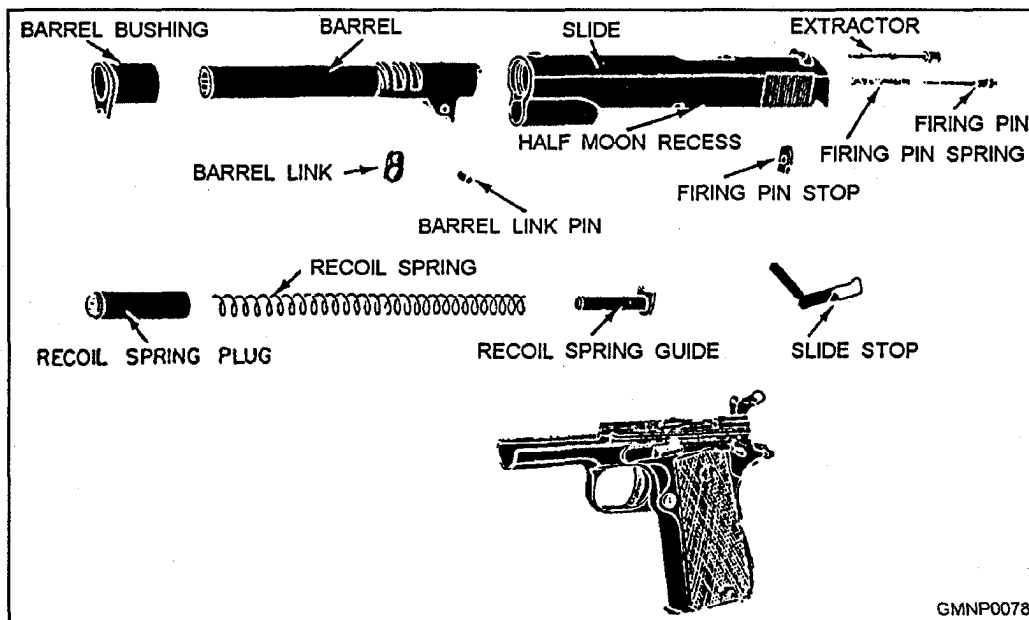
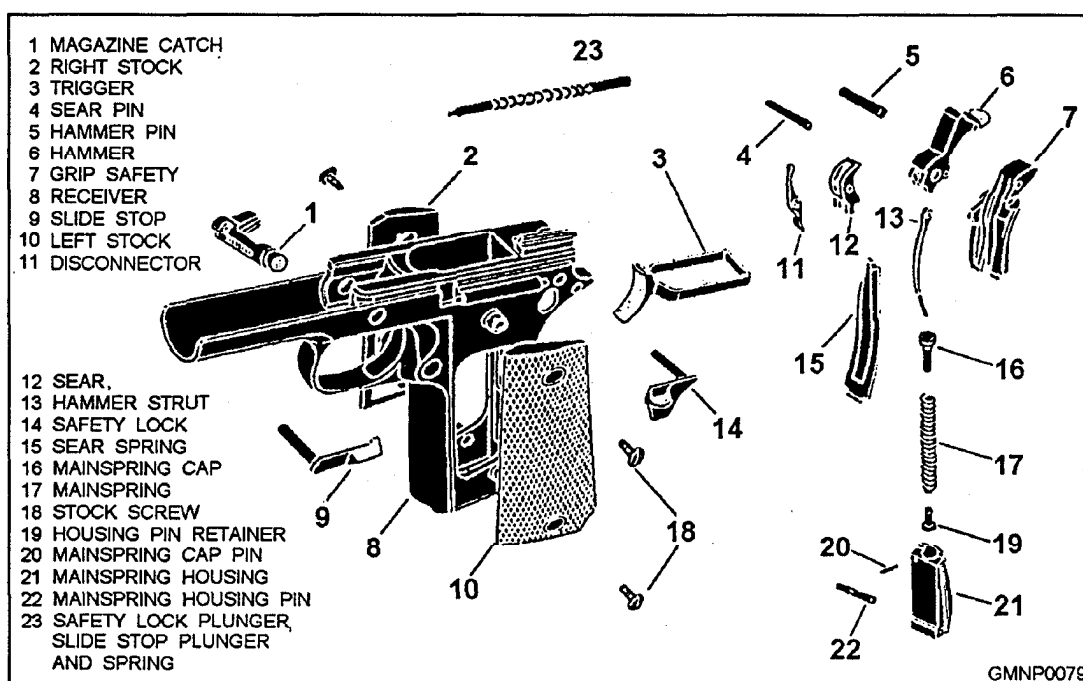

Figure 3-4.—A field stripped .45-cal. pistol.
Figure 3-5.—Detailed receiver disassembly of the .45-cal. pistol.
There are two phases of disassembly for the pistol—general disassembly (field stripping) and detailed disassembly. General disassembly (fig. 3-4) is necessary for normal care and cleaning and after the weapon has been fired. This is the extent of disassembly that is generally explained to personnel, such as watch standers. The detailed disassembly of the receiver group (fig. 3-5) is the job of the Gunner's Mate during periodic cleaning and repair. Detailed disassembly is not currently called for in any 3-M Systems MRCs. However, it is a very good idea to perform a detailed disassembly and cleaning after heavy use, such as security force range qualifications.
part is removed and replaced, the nomenclature is repeated until known. While studying the disassembly and assembly of the pistol, refer to the illustration showing the parts by name and description (fig. 3-5). Become thoroughly familiar with the parts and their functions. Knowing the names of the parts will also help you understand the operation of the weapon.
**DETAILED DISASSEMBLY OF THE RECEIVER GROUP.**— Disassembly of the receiver group into its individual parts, as shown in figure 3-5, is done as follows: